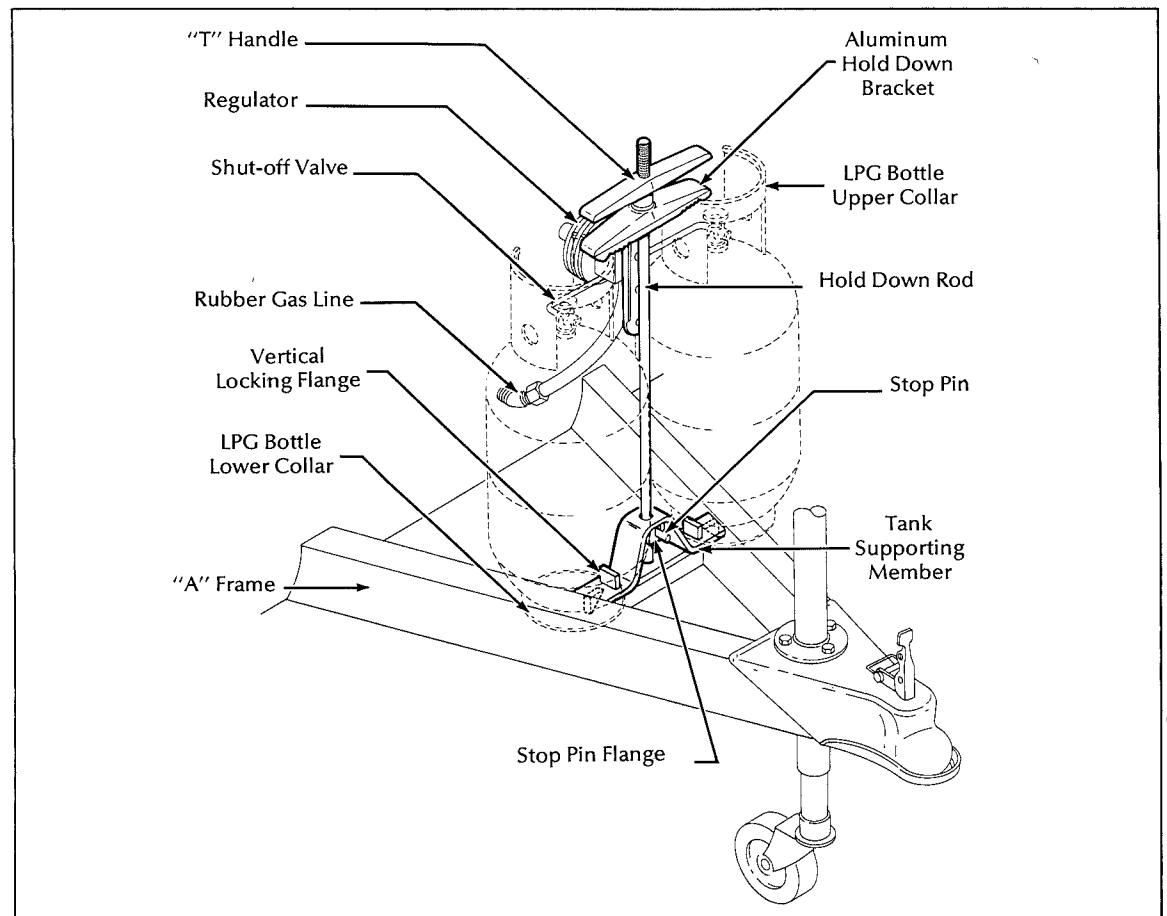

Fig. 1 - LPG - Bottle Installation
1. Place the bottle in position on the "A" frame and bottle crossmember so that the vertical locking flange (See Fig. 1) projects up inside the bottle lower collar and the open gap in the upper collar faces the rear of the trailer.
3. Make sure that the stop pin in the lower end of the hold down rod (See Fig. 1) passes through the opening in the stop pin flange and protrudes at